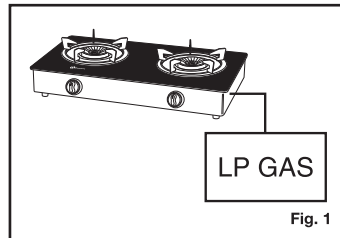

Fig. 1
- Do not use a type of gas other than that which is specified on the label attached (Fig. 1)